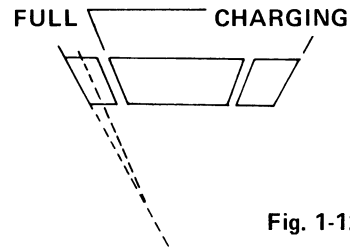

Fig. 1-12
- c. When the battery pack is fully charged the pointer will indicate FULL and make small oscillations every few seconds. See Fig. 1-12.